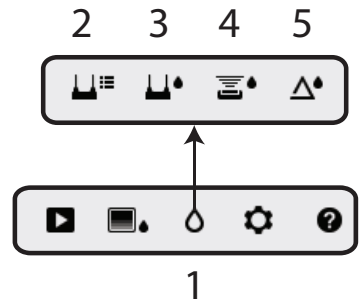

Fig. 5-4 Moisture mode icons
From the Main Menu select the MOISTURE mode icon (1). Refer to Fig. 5-4. Then choose from the four Moisture mode options (items 2, 3, 4, and 5) as described below.